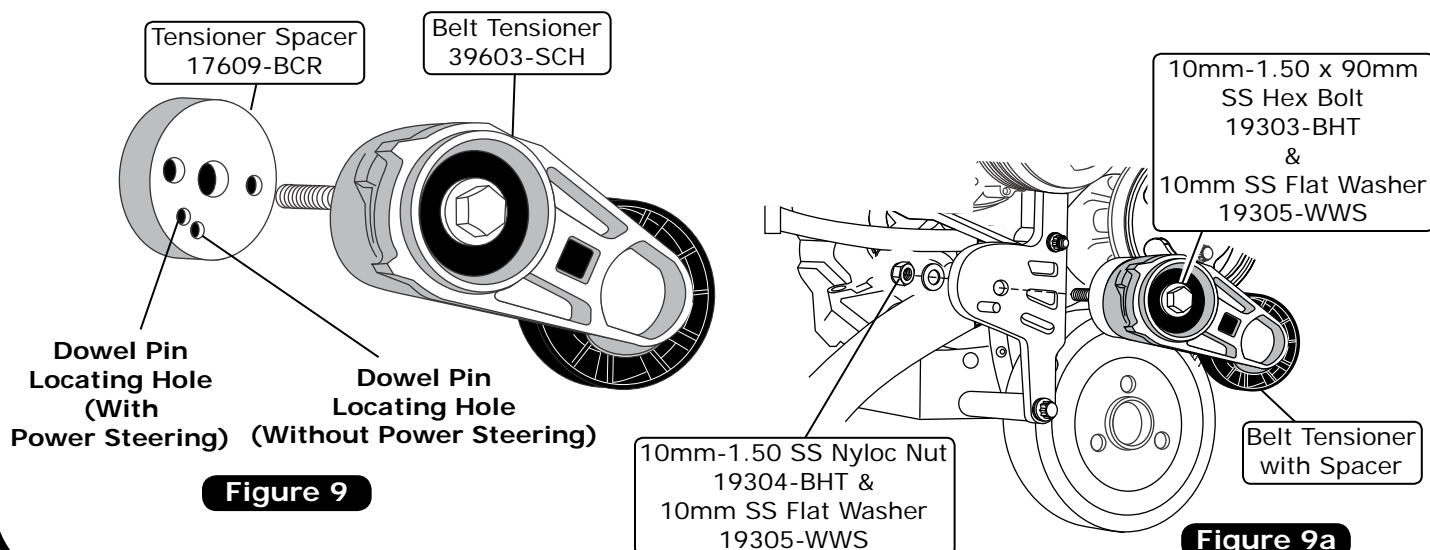

Figure 9
1. Install the tensioner spacer onto the back side of the belt tensioner (See Figure 9, below).
2. Install the belt tensioner with spacer through the belt tensioner bracket. **NOTE: Be sure to insert the dowel pin into the correct locating hole of the tensioner spacer (See Figure 9, below).** Secure the belt tensioner with spacer to the belt tensioner bracket using a 10mm-1.50 x 90mm SS hex bolt, (2) 10mm SS flat washers and a 10mm-1.50 SS nyloc nut (See Figure 9a, below). Torque to  $21 \pm 2$  lb ft.